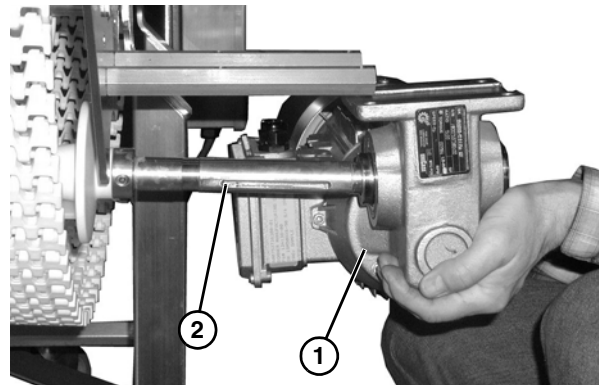

Figure 62
3. Slide the gearmotor assembly (Figure 62, item 1) off of the drive spindle (Figure 62, item 2).